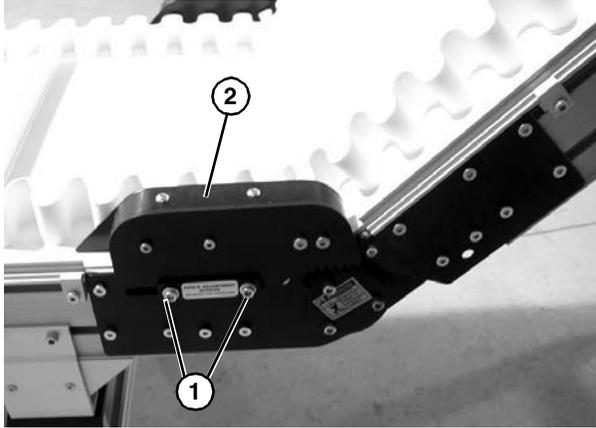

Figure 79
1. Remove screws (Figure 79, item 1) and remove lower knuckle return roller assembly (Figure 79, item 2) on both sides of knuckle, note the position of the meshing teeth.